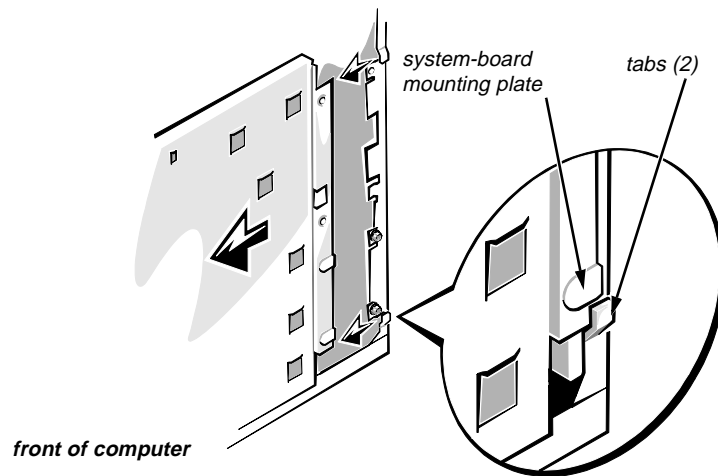

Figure 4-18. Removing the System Board Assembly From the Chassis
- a. Slide the system board assembly about a half-inch toward the front of the computer to free the assembly from the tabs (see Figure 4-18).